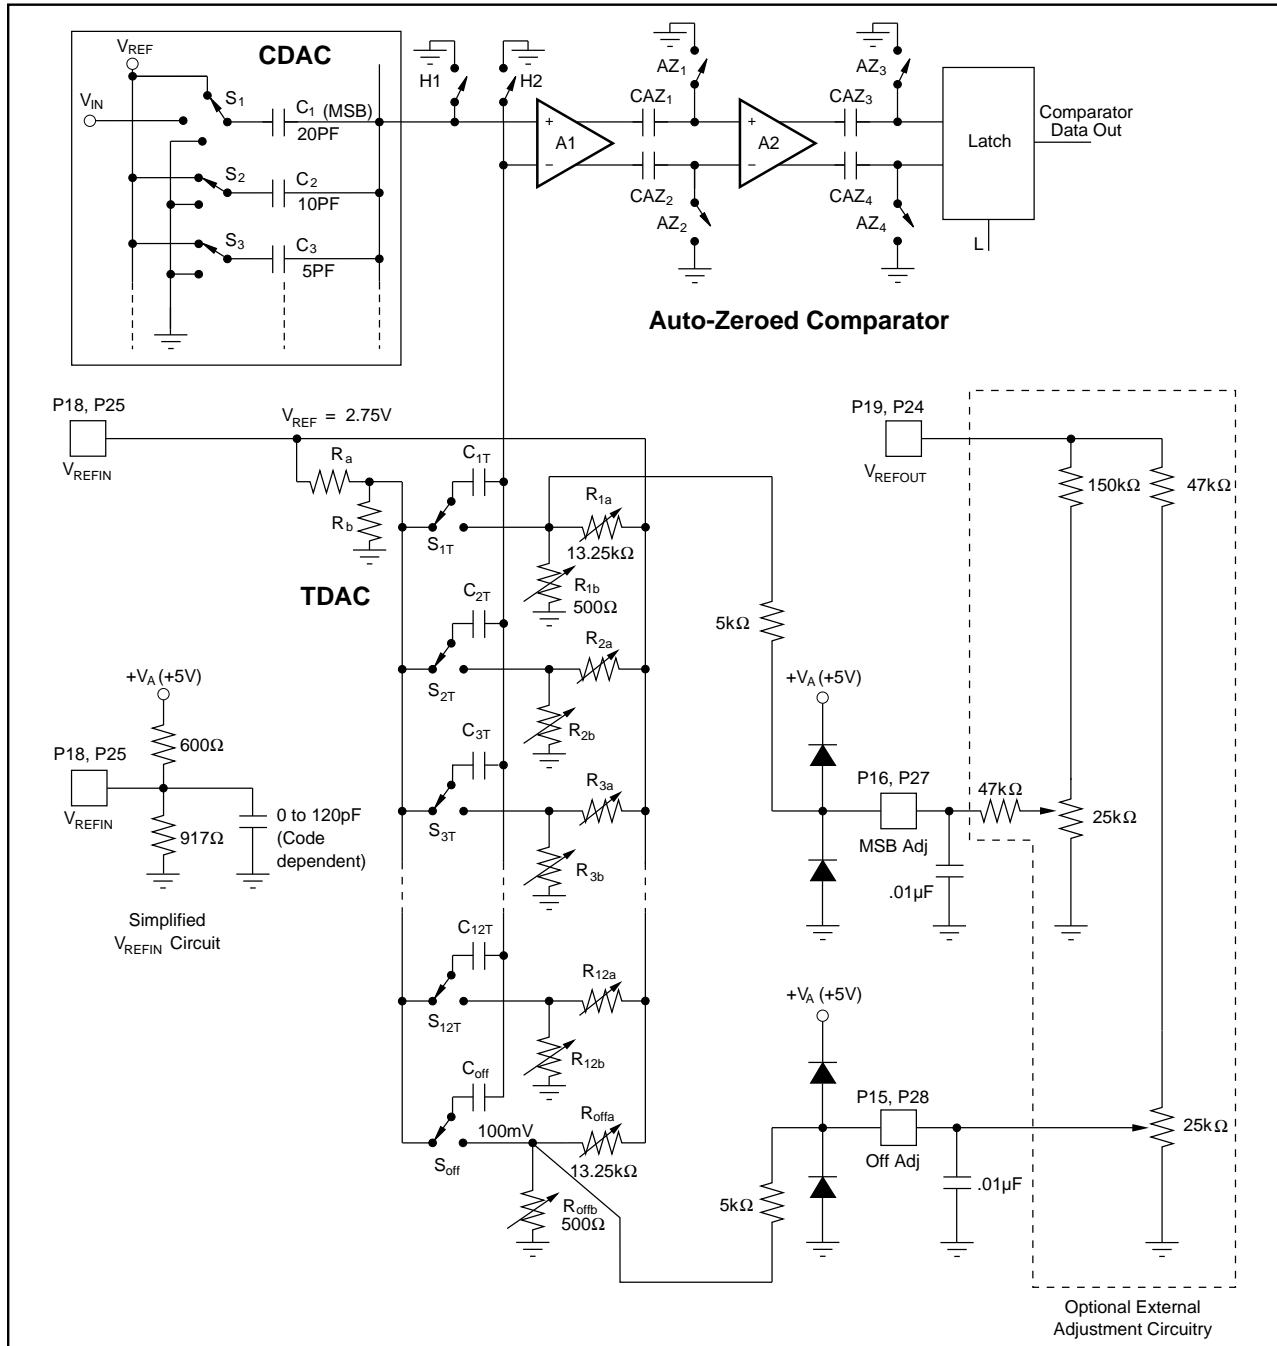
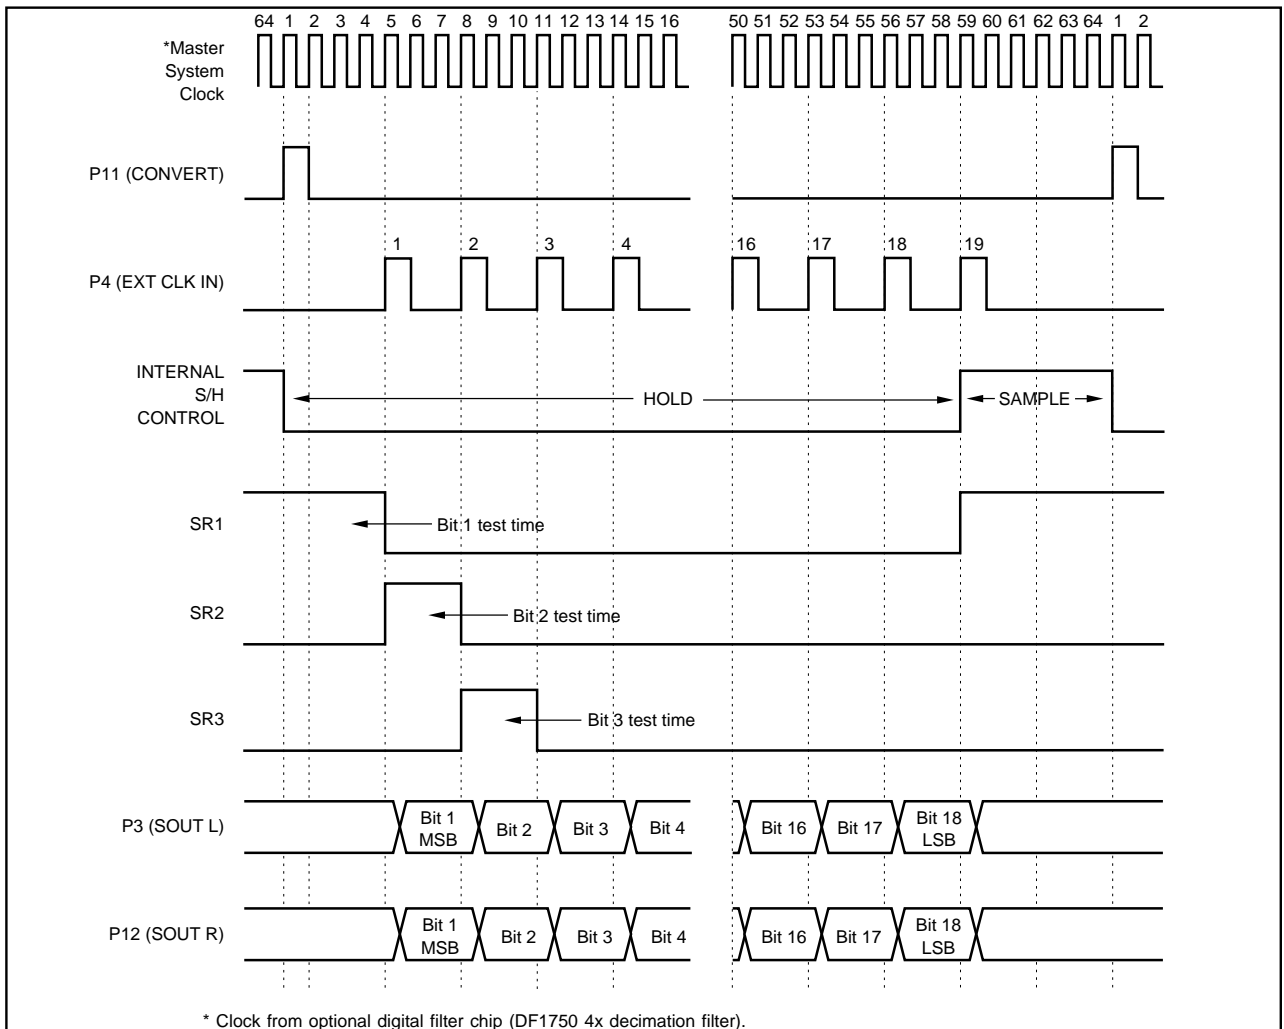

FIGURE 1. PCM1750 Simplified Circuit Diagram.
FIGURE 2. PCM1750 Input/Output Timing Diagram.
NOTES: (1) Binary Two's Complement coding. (2) The PCM1750 is tested and guaranteed at 5.2 μs , however it will operate at 4.5 μs . The dynamic performance is not guaranteed or tested at this conversion rate. (3) Ratio of $Signal_{RMS} / (Distortion_{RMS} + Noise_{RMS})$. (4) A/D converter sample frequency (4 x 48kHz; 4X oversampling per channel). (5) A/D converter input frequency (signal level). (6) Referred to input signal level. (7) Ratio of $(Distortion_{RMS} + Noise_{RMS}) / Signal_{RMS}$. (8) Externally adjustable to zero error. (9) Differential non-linearity error at bipolar major carry input code. Externally adjustable to zero error. (10) Full scale range (5.50V). (11) Refer to equivalent circuit in Figure 1. (12) Worst case operating condition. Refer to typical performance curves.
After each conversion, the dual ADC returns to the SAMPLE mode in order to track the input signals. The switches shown in the simplified circuit diagram of Figure 1 will then be in the following states: S1 connects V_{IN} to C1 ; S2 to S18 connect C2 to C18 to V_{REF} ; H1 and H2 connect the top plates of the capacitor arrays to analog common; and the latching comparator is switched into its auto-zero mode by closing AZ1 to AZ4. Notice that C1 serves two purposes: it samples and stores the input signal V_{IN} and it is the MSB of the CDAC. Storing V_{REF} on C2 to C18 creates a bipolar offset, enabling V_{IN} to cover a span from $-V_{REF}$ to $+V_{REF}$.
occurs during the SAMPLE period (see the timing diagram shown in Figure 2). These errors are stored on the AC coupling capacitors (CAZ1 to CAZ4, shown in Figure 1) between the gain stages. During the SAMPLE period the inputs to gain stages A1 and A2 and the latch are grounded by switches H1, H2, and AZ1 to AZ4. Capacitors CAZ1 and CAZ2 track the amplified offset voltage of gain stage A1 and capacitors CAZ3 and CAZ4 do the same for A2. At the beginning of a conversion cycle, the autozeroing switches open and the instantaneous amplified value of both the DC offset voltage and the low-frequency flicker noise is stored on the coupling capacitors to produce zero comparator offset during a conversion cycle.
The timing diagram in Figure 2 illustrates the successive approximation routine of the PCM1750. Control signals CONVERT and CLK are derived from a master system clock which comes from a $256f_s$ ($256 \times$ the base sampling frequency of 48kHz) clock used by the optional digital filter. There are 64 clocks shown in the timing diagram because the PCM1750 is shown operating at 4 times the standard 48kHz sample rate (192kHz).
analog common (see Figure 1). This terminates the comparator auto-zero cycle and simultaneously switches (co-phase sampling) both converters from tracking their respective input signals into the HOLD mode, thus capturing the instantaneous value of V_{IN} (with a small delay specified as the aperture time).
For example, the testing of bit-2 proceeds in the following manner. The positive pulse from the second shift register element SR2, (see Figure 2 and 4) is applied to the bit-2 data latch and NOR gate. The NOR gate in turn drives S2 and switches bit-2 at the beginning of the bit-2 test interval. Note that the bit interval must be long enough to allow both the comparator input to settle and the comparator to respond. On
Notice from the timing diagram in Figure 2 that the successive approximation algorithm operates synchronously with an external clock to minimize digitally-coupled switching noise from corrupting either the sample-to-hold operation or the critical comparator bit decisions. The two serial output data streams are derived synchronously from the respective latched comparator outputs and are available after a delay of one CLKIN cycle as illustrated in Figure 2. The serial output driver cells are TTL and CMOS compatible.
Operation of the TDAC (trim DAC), which is laser trimmed at the wafer level, is described using bit-1 as an example. Switch S1T (see Figure 1) operates between two voltage levels—a reference level set by voltage divider Ra, Rb and a laser trimmable level set by R1a, R1b. The differences of these two levels is coupled by capacitor C1T to the minus input of the comparator to generate a correction voltage for